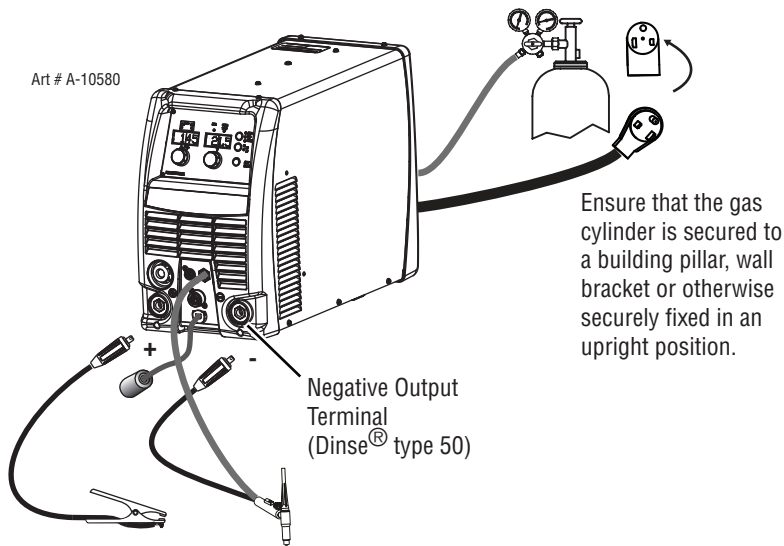

Figure 3-23: Setup for LIFT TIG (GTAW) Welding
2. Connect the work lead cable to the positive output terminal, and the LIFT TIG Torch cable to the negative output terminal. Refer to Figure 3-23.
3. Connect the gas line/hose to the proper shielding gas source. Refer to Figure 3-23.